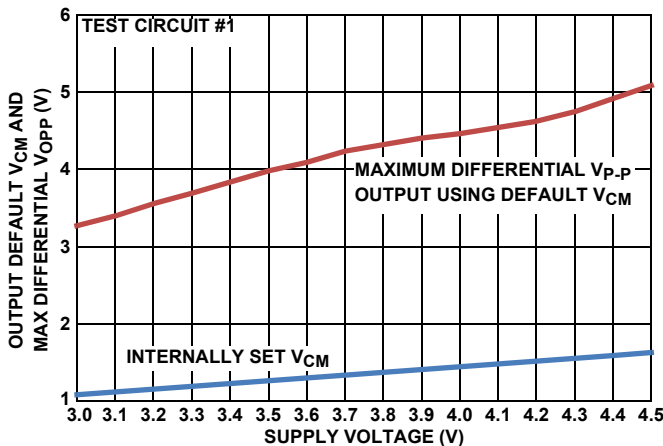
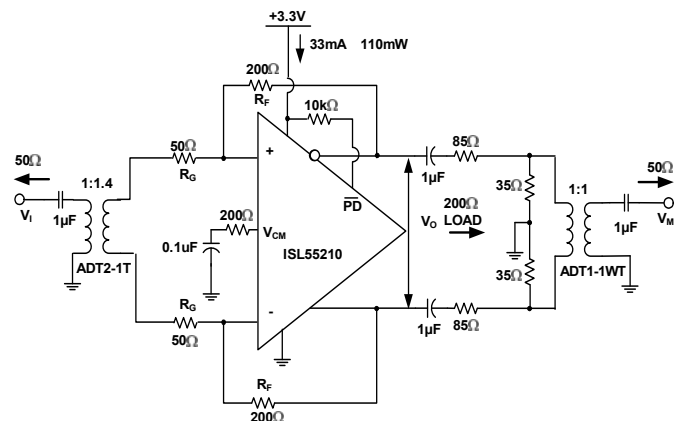
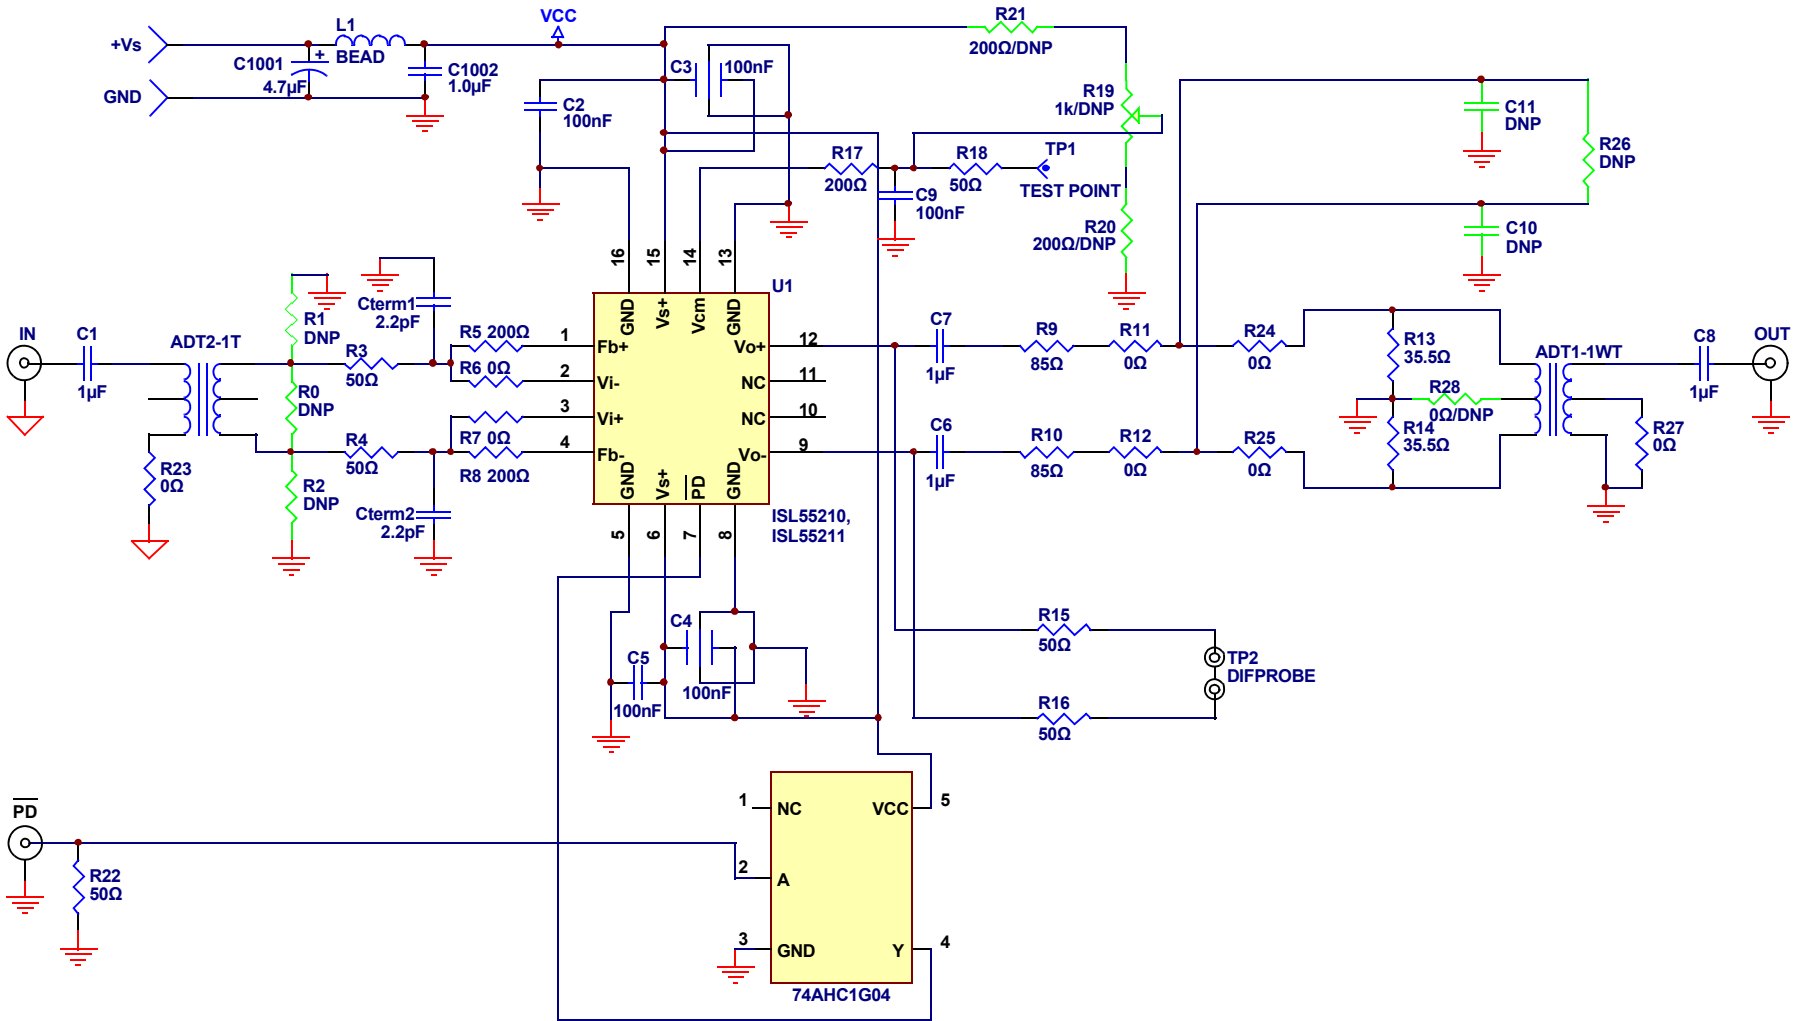

FIGURE 26. DEFAULT V_{CM} AND MAX V_{OPP} vs SUPPLY VOLTAGE
FIGURE 28. TEST CIRCUIT #1
FIGURE 38. SCHEMATIC FOR ISL55210, ISL55211 SINGLE INPUT TRANSFORMER EVM REV. C
The circuit of Figure 28 forms a starting point for many of the characterization curves for the ISL55210. Since most lab sources and measurement devices are single-ended, this circuit converts to differential at the input through a wideband transformer and would also be a typical application circuit coming from a single ended source. Assuming the source is a 50Ω impedance, the R_G resistors are set to provide both the input termination and the gain. Since the inverting summing nodes act as virtual ground points for AC signal analysis, the total termination impedance across the input transformer secondary will be $2 * R_G$. Setting this equal to $n^2 * R_S$ will give a matched input impedance inside the bandwidth of the transformer (where "n" is the turns ratio). The amplifier gain is then set by adjusting the feedback resistors
Working with a transformer coupled input as shown in Figure 28, or with two DC blocking caps from a differential source, means the output common mode voltage set by either the default internal V_{CM} setting, or a voltage applied to the V_{CM} control pin, will also appear as the input common mode voltage. This provides a very easy way to control the ISL55210 I/O common mode operating voltages for an AC coupled signal path. The internal common mode loop holds the output pins to V_{CM} and, since there is no DC path for an I_{CM} current back towards the input in Figure 28, that V_{CM} setting will also appear as the input common mode voltage. It is useful, for this reason, to leave any input transformer secondary centertap unconnected. The internally set V_{CM} voltage is referenced from the negative supply pin. With a single 3.3V supply, it is very close to 1.2V but will change with total supply voltage across the device as shown in Figure 26.
Most of the characterization curves start with Figure 28 then get different gains by changing the feedback resistor, R_F , use different input transformers where then the R_G is also adjusted to hold an input match, or vary the loading. For load tests below the 200 Ω shown in Figure 28, a simple added shunt resistor is placed across the output pins. For loads >200 Ω , the series and shunt load R 's are adjusted to show that total load (including the 50 Ω measurement load reflected through the 1:1 output measurement port transformer) and provide an apparent 50 Ω differential source to that transformer. This output side transformer is for measurement purposes only and is not necessary for final applications circuits. There are output interface designs that do benefit from a transformer as part of the signal path, but the one shown at the right of Figure 28 is used only for characterization to get a doubly terminated 50 Ω measurement path going differential to single ended.
The characterization circuit of Figure 28 shows one possible input stage interface that offers several advantages. The ISL55210 can also support a DC coupled differential to differential or single ended input to differential requirement if needed. Where AC coupling is adequate, the circuit of Figure 28 simplifies the input common mode voltage control. If the source coming into this stage is single ended, the input transformer provides a zero power conversion to differential. The two gain resistors (R_G in Figure 28) provide both the input termination impedance and the gain element for the amplifier. For minimum noise, only R_G should be used and set to achieve the desired input impedance. Since the ISL55210 is a VFA device, these resistor values can be scaled up and down a bit more freely than a current feedback based FDA.
3.6V_{P-P} output capability. The V_{P-P} reported in Figure 26 is an asymmetrically clipped maximum swing. Going 10% above this 3.7V target to 4.1V will be within the recommended operating range and give some tolerancing headroom that would also suggest the V_{CM} voltage be moved up to approximately 1.5V. This coincides with the default output V_{CM} from Figure 26. Operating at +4.1V single supply in a Figure 28 type configuration will give the maximum linear available output swing of 3.6V_{P-P}.
The differential inputs of the ISL55210 also have operating range limits relative to the supply voltages. Operating in an AC coupled circuit like Figure 28 will produce an input common mode voltage equal to the outputs. The inputs can operate with full linearity with this V_{CM} voltage down to 1.1V above the GND connection (or -V_S supply). On the default 1.2V output V_{CM} on +3.3V supplies this gives a 100mV guardband on the input V_{CM} voltages. Overriding the default V_{CM} by applying a control voltage to the V_{CM} pin should be done with care in going towards the negative supply due to this limit. On the + side, the maximum V_{CM} above the -V_S supply is 2V so there is more room to move the output V_{CM} up than down from the default value.
Test circuit #1 (Figure 28) is implemented on an Evaluation Module Board available from Intersil. This board includes a number of optional features that are not populated as the board is delivered. The full EVM board circuit is shown in Figure 38 where unloaded (optional) elements are shown in green.